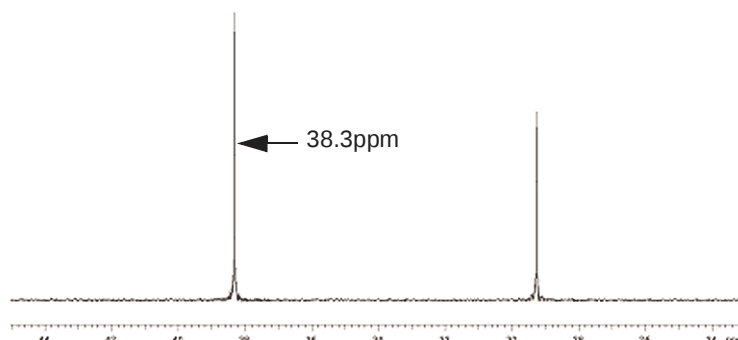

Figure 86. Adamantane Reference Spectrum
11. Repeat the collection of data and type **setref** again until the frequency of the low field line of adamantane is 38.3 ppm, see Figure 86.